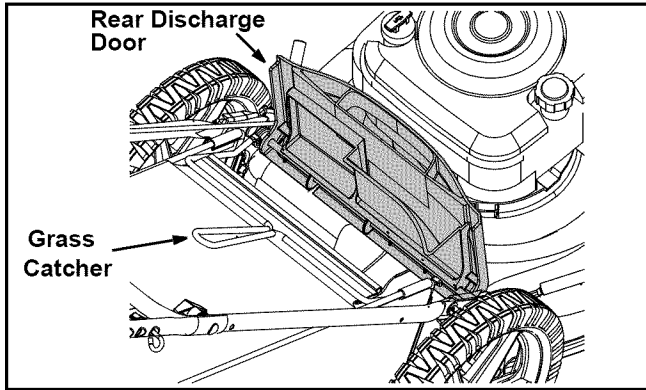

Figure 10
1. Lift the rear discharge door and place the grass catcher on the pivot rod. Let go of the discharge door so that it rests on the grass catcher. See Figure 10.